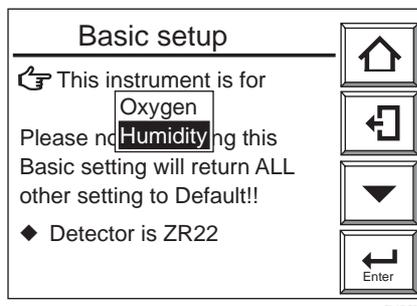

Figure 7.8 Basic Setup
- (6) If the converter type is to be changed, press the [Enter] key. The display shown in Figure 7.8 then appears.
- (7) Use the ▼key to select the type of equipment. Then press the [Enter] key to complete the converter selection.
- (8) If the type of converter is changed after setting the operating data, those data are then initialized and the default settings remain. Reset the operating data to meet the new type of equipment.